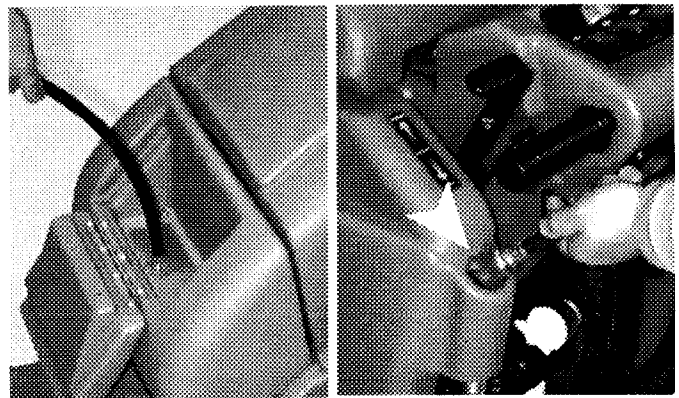

FIG. 10
- Open solution fill door at front of machine and fill solution tank with clean water (140°F/ 60°C maximum temperature), or you can fill solution tank using hose fill port at rear of machine. Twist off plug and insert hose to fill. Clear tube below the hose fill port has 5 gallon increment markers to indicate amount of water in tank. (Figure 10)